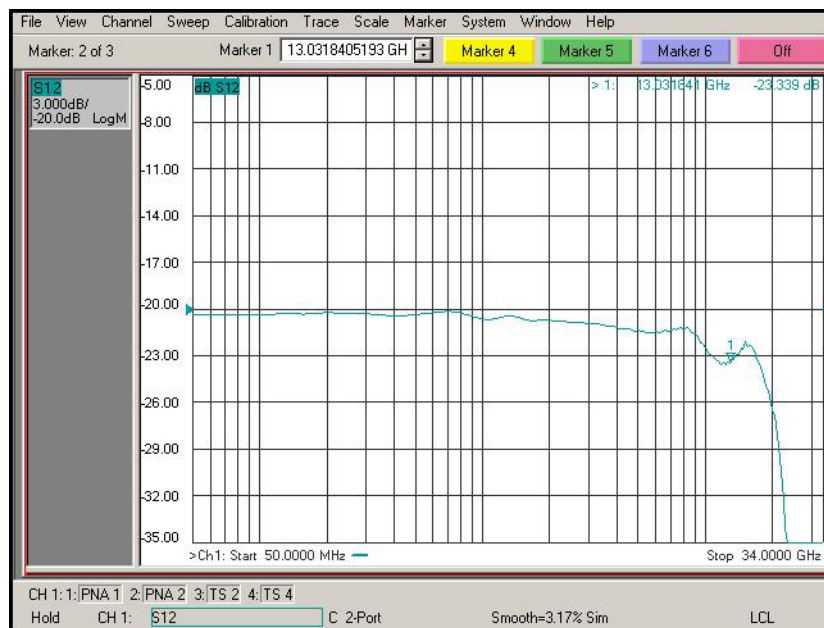

Figure 97 De-Embedded V_{out} Trace
- c Display should look like **Figure 97**. If it looks noticeably different, the probe tip wires may not be making contact under the pincher.